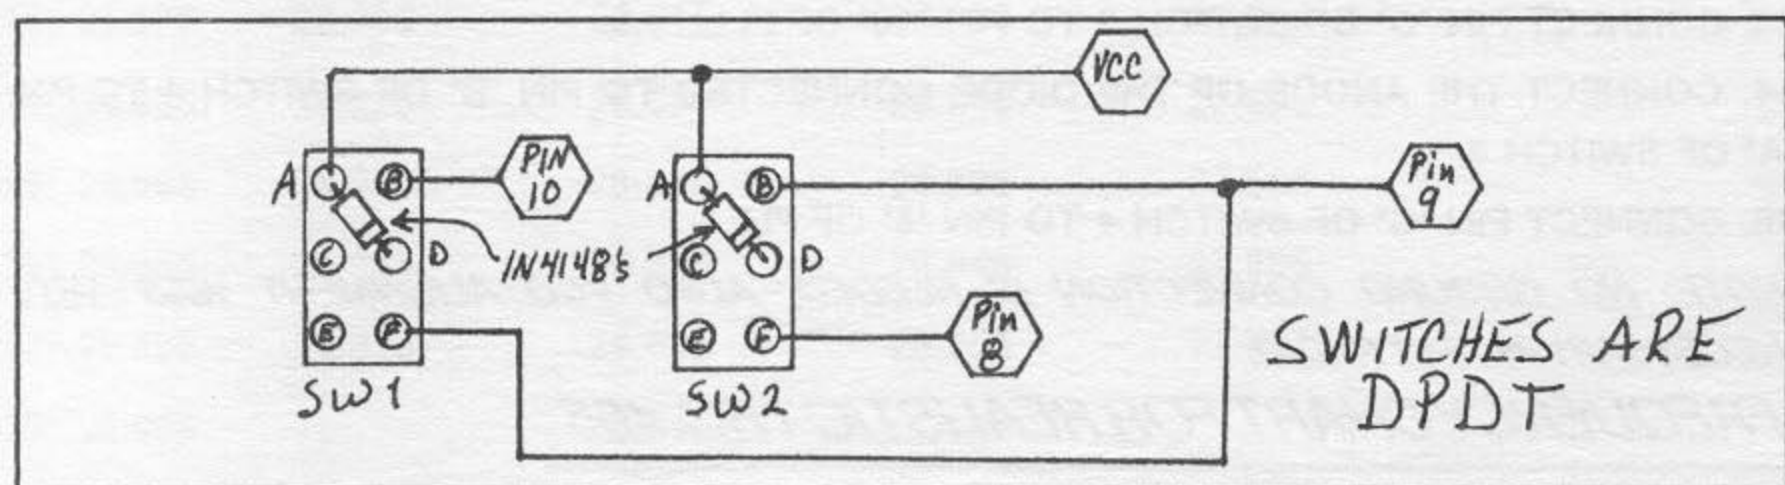

FIGURE 1. TRC-455
1. REFER TO FIGURES 1 & 3. PREPARE YOUR SWITCHES AS FOLLOWS; SOLDER A 1N4148 DIODE FROM PINS "A" TO "D" ON BOTH DPDT SWITCHES, CATHODES TO PIN "D". SOLDER A 1N4148 DIODE TO SWITCH "4", PIN "B", CATHODE TO PIN "B".